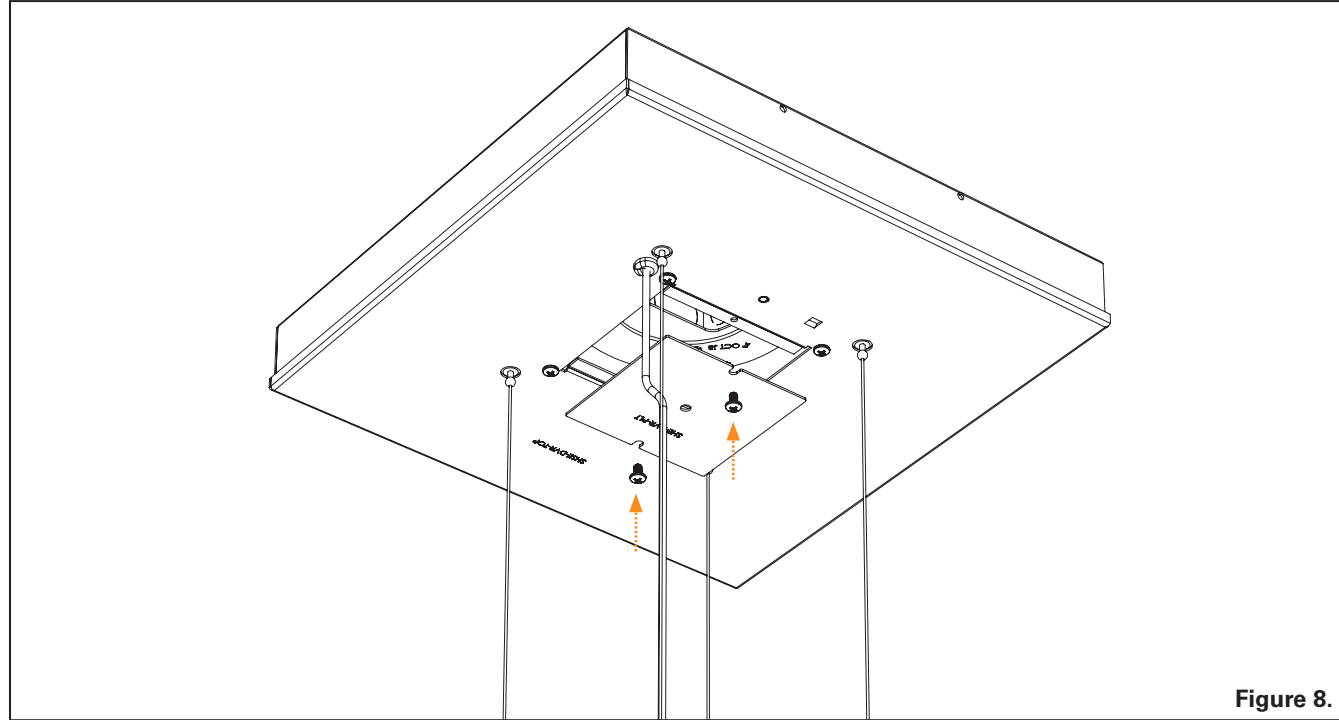

Figure 8.
Step 8. When the final height is determined and leveling is complete, either cut the excess Air Craft Cable or tightly spool it up with a tie wrap. Wrap and tie excess low voltage wire and tuck into the Driver Compartment. Ref. Figure 8.